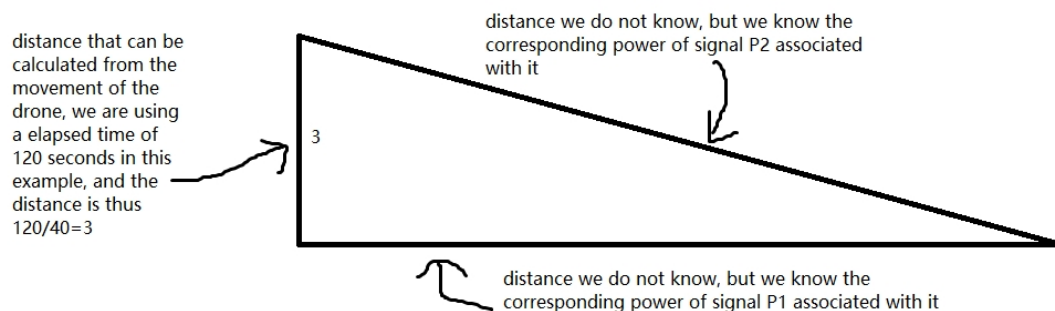

Figure 1. the overall structure to calculate the distance
Above is the way we calculate the power of the signal. We will take samples while the drone is at a certain altitude over a time period of 5 seconds, which corresponds to $5*2000$ samples. Here we make the step size to be 10 so that the computation is less intense. From here, we will be able to get the average power $p1$ corresponding to the lower side of the triangle in figure 1. Similarly, we can calculate the power $p2$ that is associated with the upper right side of the triangle in figure 1. After that, we will be able to obtain the ratio.
The ratio of the power of the signal is the ratio of the squared ratio of the two sides of the triangle in Figure 1. (this can be seen from equation (1) we mentioned earlier) To visualize, in our case the ratio of power is 1.9895, and the ratio of distance is thus $\sqrt{1.9895}$. With this ratio of distance, we can thus calculate x_{source} .